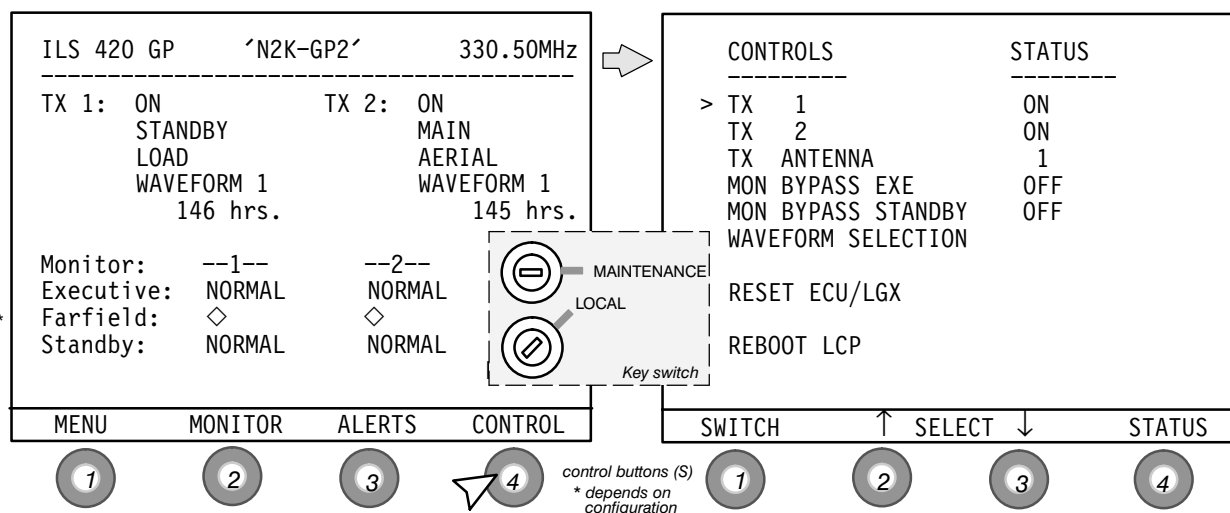

Fig. 3–13 CONTROL select and Control window (example)
- S4 STATUS to return to the Status window (see Fig. 3–6)